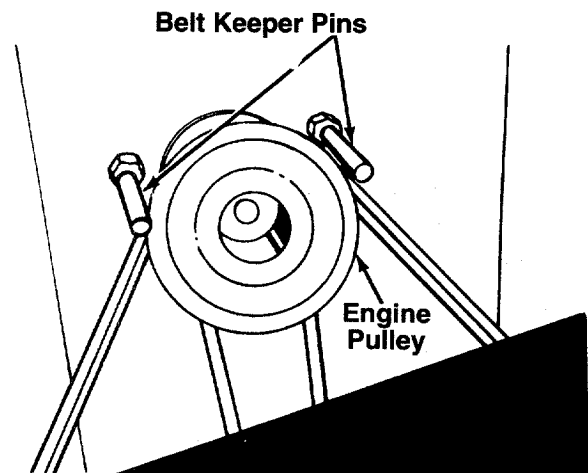

FIGURE 19.
NOTE: Figures 19 and 21 are shown with the unit tipped up for clarity. It is not necessary to tip the unit to remove the belts.
2. Remove the belt keeper pins from the engine pulley belt guard. See figure 19.
NOTE: When reassembling, make certain belt keeper pins are assembled in the same locations from which they were removed. See figure 19.